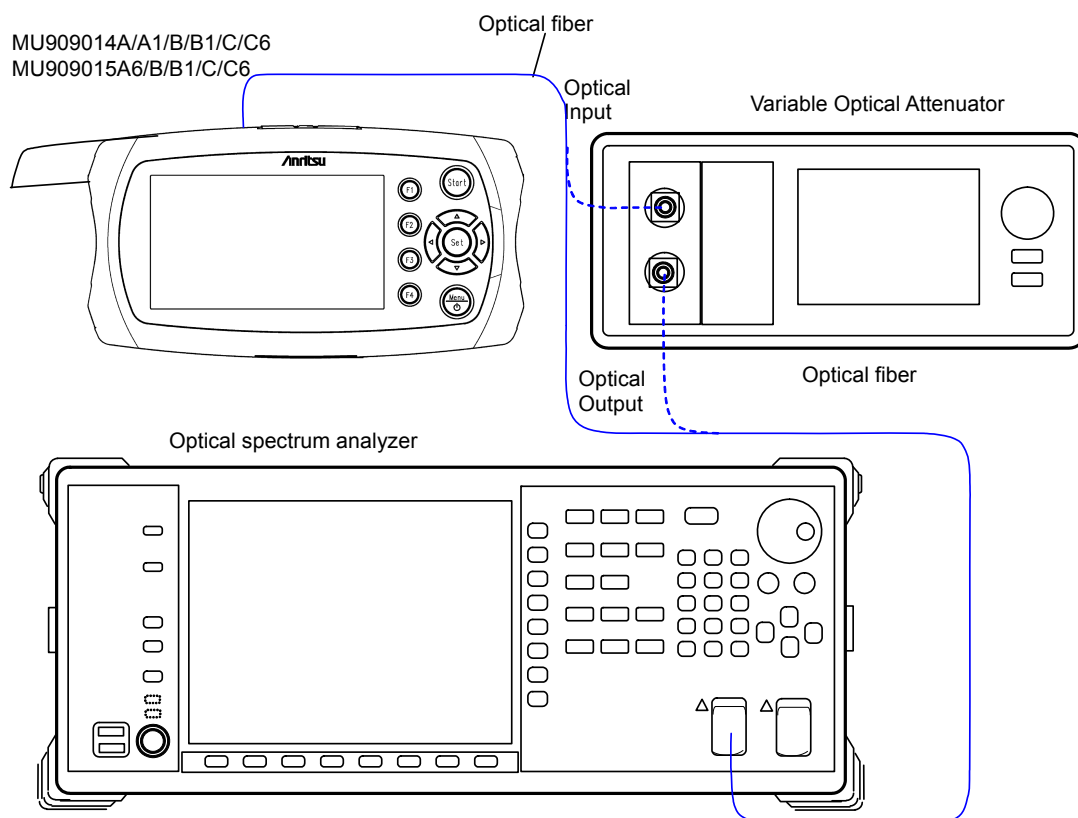

Figure 11.1.2-1 Wavelength Test - Connection Diagram
1. Connect the main frame and measuring instruments as shown in Figure 11.1.2-1.